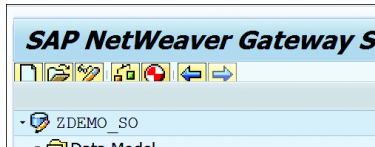

Figure 19.111 Generate Runtime Object
12. The basic definition of the model is completed; now, you need to generate the runtime object. Click the GENERATE RUNTIME icon, as shown in Figure 19.111, to generate the runtime object.